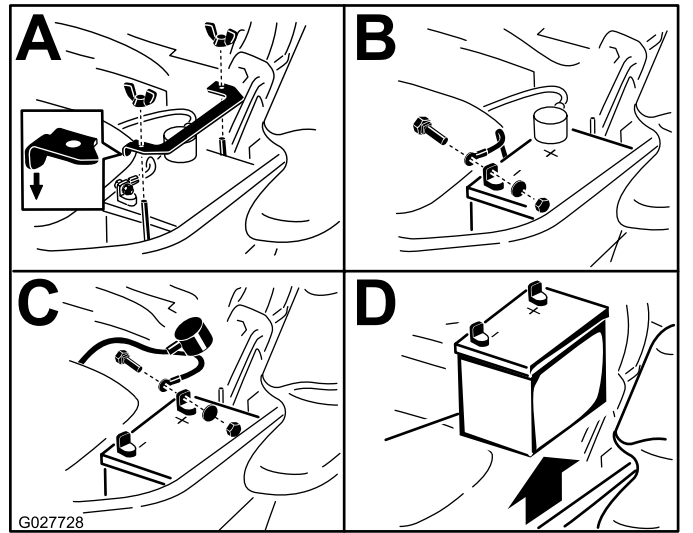

Figure 53
3. Remove the battery as shown in Figure 53.
Note: Position battery in the tray with the terminal posts opposite from the hydraulic tank (Figure 53).